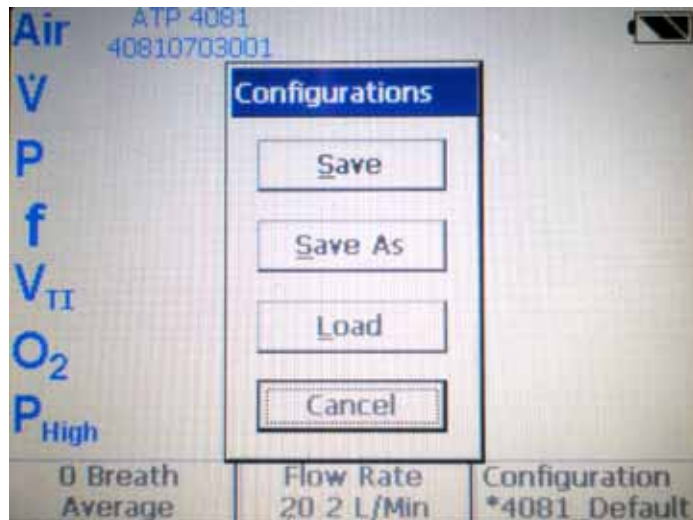

Figure 8-7: Save, Save As, Load screen
2. Touch the Save As tab (refer to Figure 8-7).